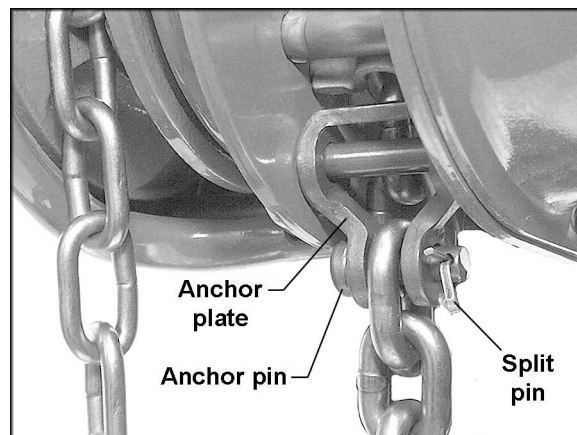

Figure 10
4. Remove the split pin and the anchor pin on the anchor plate (Figure 10).